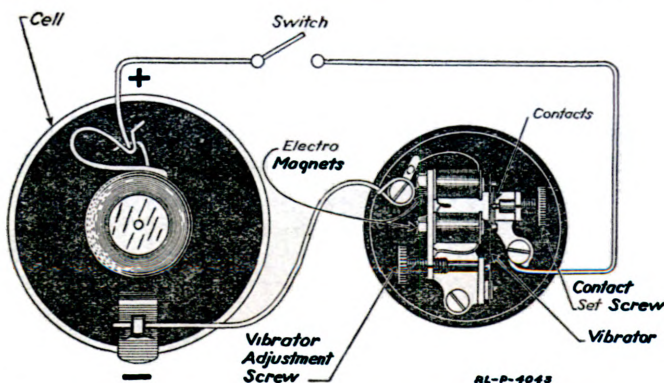

Fig. 19.—Test buzzer with cap removed to show parts and method of connecting to dry cell.
*The Electric Buzzer.*—The buzzer is another electrical device which utilizes the electromagnet. The buzzer shown in Fig. 19 is the
with the vibrator. Connect one terminal of the dry cell to one terminal of the buzzer as shown in Fig. 19. Connect one end of a lead wire to the other terminal of the battery. Touch the vibrator terminal with the other end of the lead wire.
*The Action of a Buzzer.*—The action of a buzzer is as follows: When the switch in Fig. 19 is closed, the current passes through the positive lead to the contact screw, through the contact screw and vibrator, then through the coils in series, and back through the negative lead to the dry cell. When the current passes through the magnet coils the iron cores of the magnet become magnetized and attract the vibrator or armature. This attraction pulls the armature away from the contact thumbscrew and thus causes the circuit to be broken. As soon as the circuit is broken the electromagnets lose their magnetism and no longer attract the armature. The tension of the armature causes it to return to its original position, that is, resting against the contact screw. This movement results in the circuits again being completed and the armature again is attracted to the magnets. This action is repeated over and over again, causing the armature to emit a sound or note.